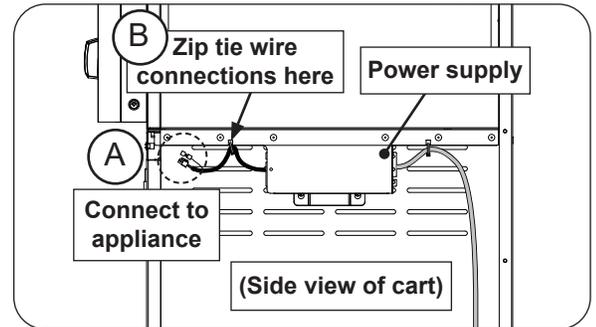

Fig. 11-1 Zip tie electrical connections
4. Connect the appliance wire harness to the power supply through the cabinet doors. See Fig. 11-1, A.
5. Install a provided zip tie as shown in Fig. 11-1, B to keep the electrical connections securely in place.